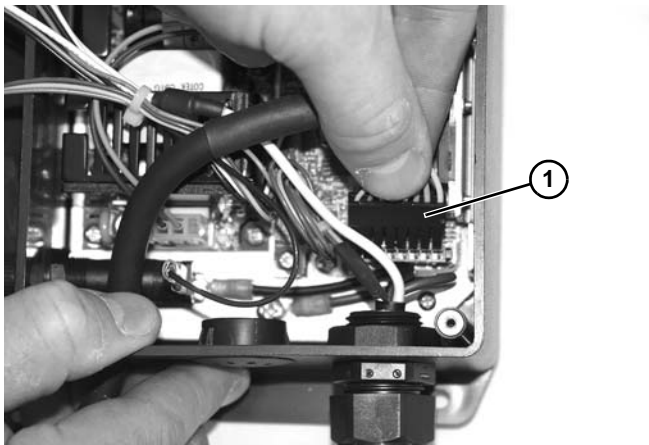

Figure 29
5. Remove wiring connector (Figure 29, item 1) from main board.